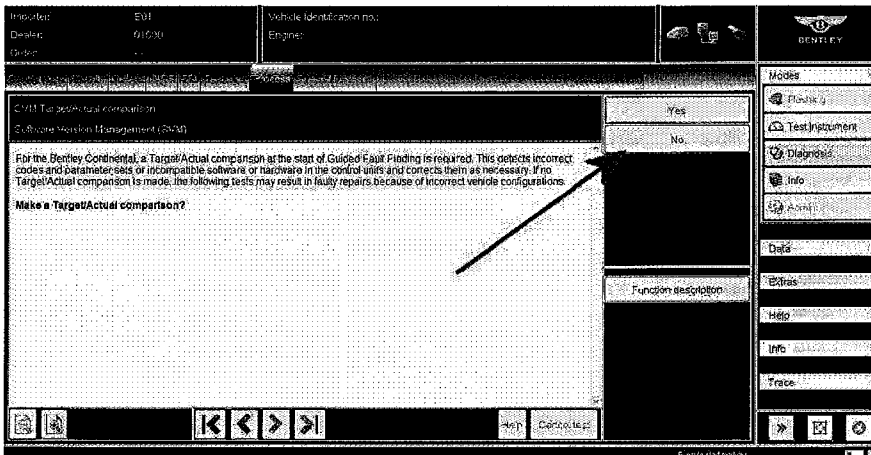

Figure 6
4. When requested to **Make a SVM Target/ Actual comparison?** Please select **No** (Figure 6)